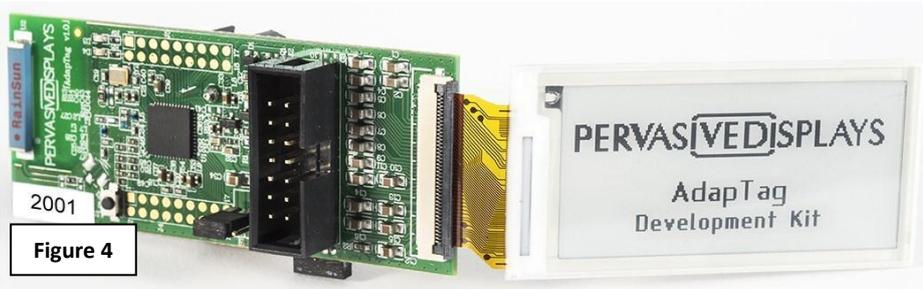
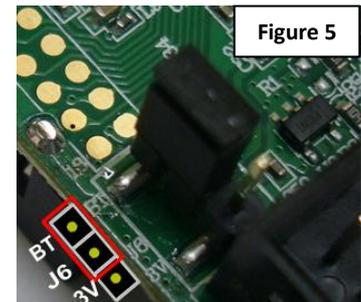

Figure 4
Figure 5
4. Insert one CR2450 battery into the battery holder of each slave board (see Figure 3). Attach each EPD to the respective Slave board according to the Slave ID on the labels. (1401 for 1.44", 2001 for 2" and 2701 for 2.7" – see Figure 4). Place the black jumper on the BT & J6 pins on each slave board as in Figure 5. Verify that the green LED on the Slave board is blinking.